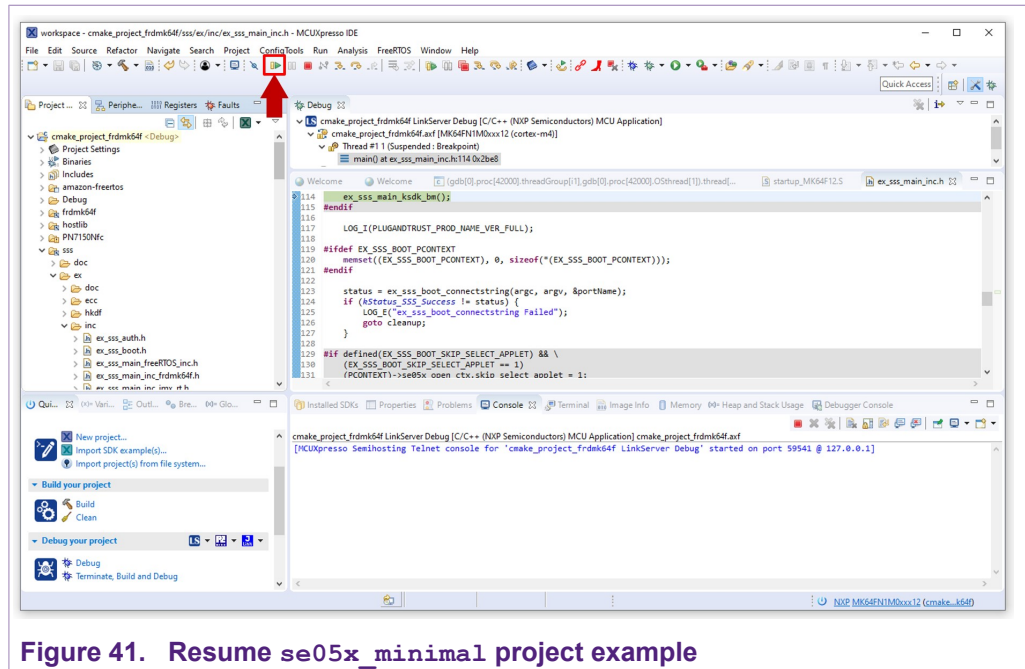

Figure 41. Resume se05x_minimal project example
- When it executes, it will automatically stop in a breakpoint. Click on **Resume** to allow the software to continue its execution as shown in Figure 41.